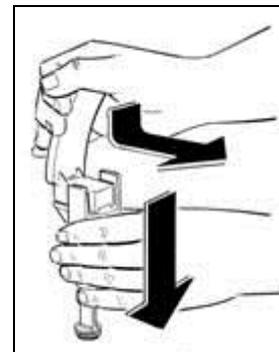

Fig. 15
- Disassemble the tap by keeping the body pressed down and slipping the lever from its seat (fig.15).